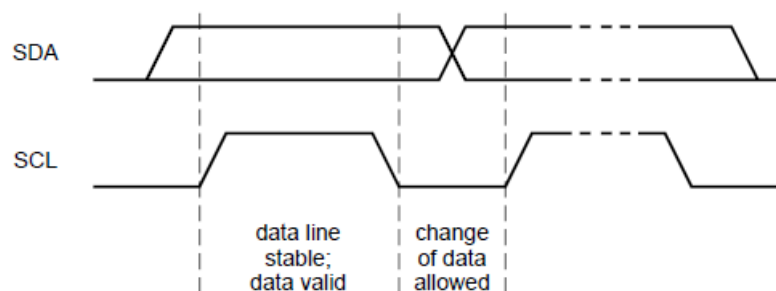

Fig.3.2 Valid Data
- Valid data : The data on the SDA line must be stable during the high period of the SCL clock. Within each byte, MSB is always transferred first. Read / Write control bit is the LSB of the first byte. Please refer to Figure 3.2.